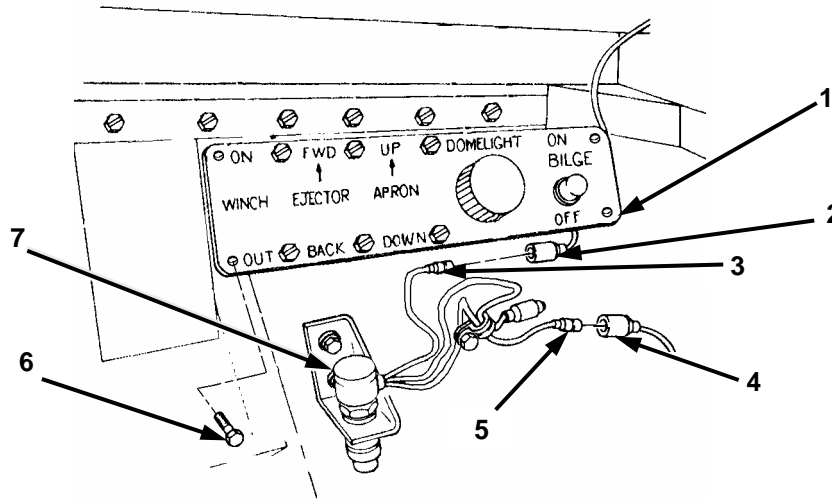
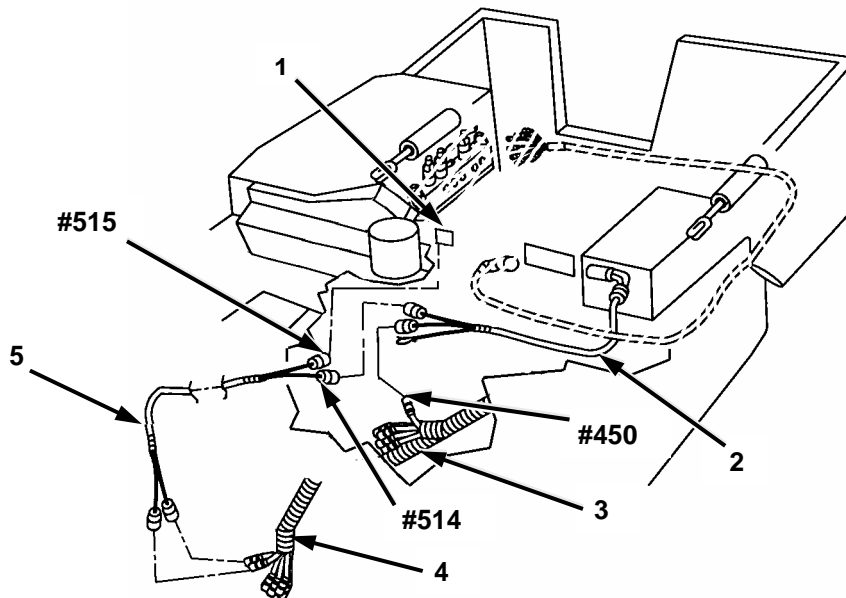

Figure 2-40. Ejector Panel.
Figure 2-41. Blade Folder Harness.
- Remove four screws (Figure 2-40, 6) on ejector panel (1) and move panel downward, retaining screws for future use.
- Remove control harness lead #450 (Figure 2-40, 4) from bilge pump switch (7) lead (5).
- Remove bilge light lead #450 (2) from bilge pump switch (7) lead (3).
- Connect hull wiring harness leads (Figure 2-41, 4) to blade folder harness 12491607 (5), matching lead numbers.
- Route blade folder harness (5) through opening on lower left side into driver's compartment behind ejector panel.
- Route control box power harness (2) behind ejector panel.
- Connect blade folder harness lead #514 to control box power harness (2).
- Connect bilge pump light lead #450 (Figure 2-40, 2 and Figure 2-41, 1) to blade folder harness lead #515.
- Connect control harness lead #450 (3) to control box power harness (2).